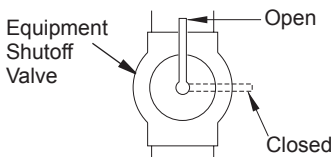

Figure 22 - Equipment Shutoff Valve
1. Close equipment shutoff valve (see Figure 22).
1. Open equipment shutoff valve (see Figure 22).
3. Close equipment shutoff valve (see Figure 22, page 17).